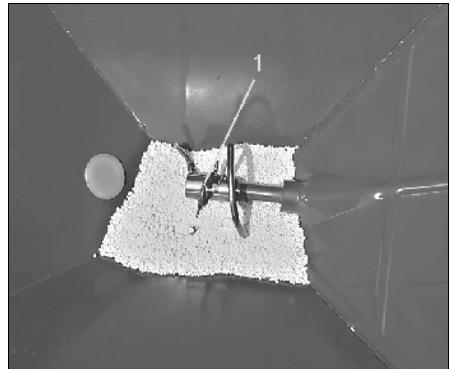

Fig. 61
- Agitator spiral clip (Fig. 61/1) serve as shear off safety for the agitator shaft.